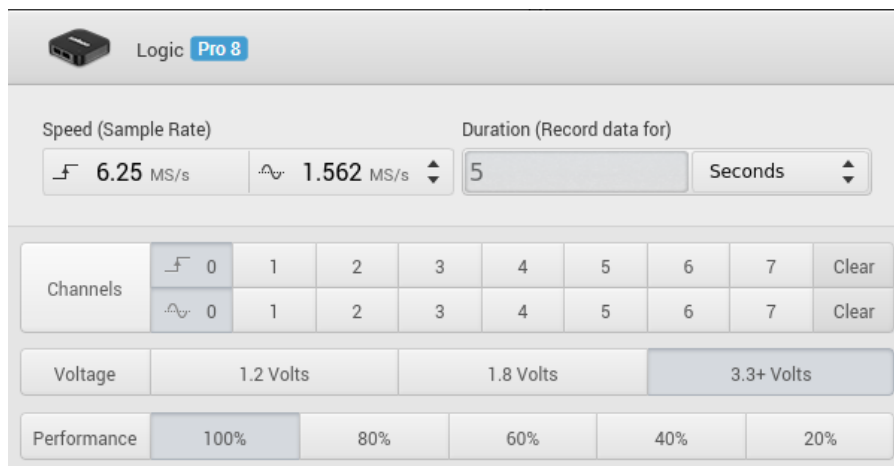

Figure 6: Saleae logic analyser sample rate configuration and channel selection
4. Find and open the program ‘Logic’ on the lab PC. Click the arrow next to the green button in the top left and configure the capture settings as per Figure 6.